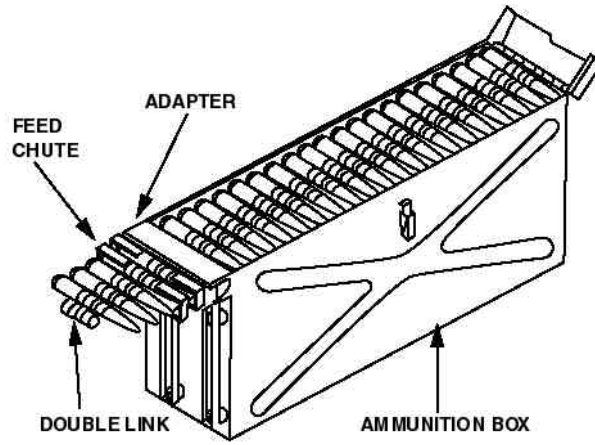

Figure 2-12. Ammunition Box Loading.
- | Set MAIN POWER ON switch (2) to ON.
- | Press REMOTE ON/OK switchlight (1) to ON. (RCU has interfaced with fire unit computer, when OK light and all other display lights come on.)
- | Set DRIVE INTERLOCK switch (3) to SAFE. (If ARM switch on gunner's console is in the SAFE position, the weapon may be safed from the RCU.) Ensure gun is clear of ammo and links. Remove ammunition box and ammunition chute.
- | Position linked ammunition into ammunition box (with ammunition box and chute removed from the Avenger) so a single loop link (see fig. 2-12 on page 2-52) is in the corner, and